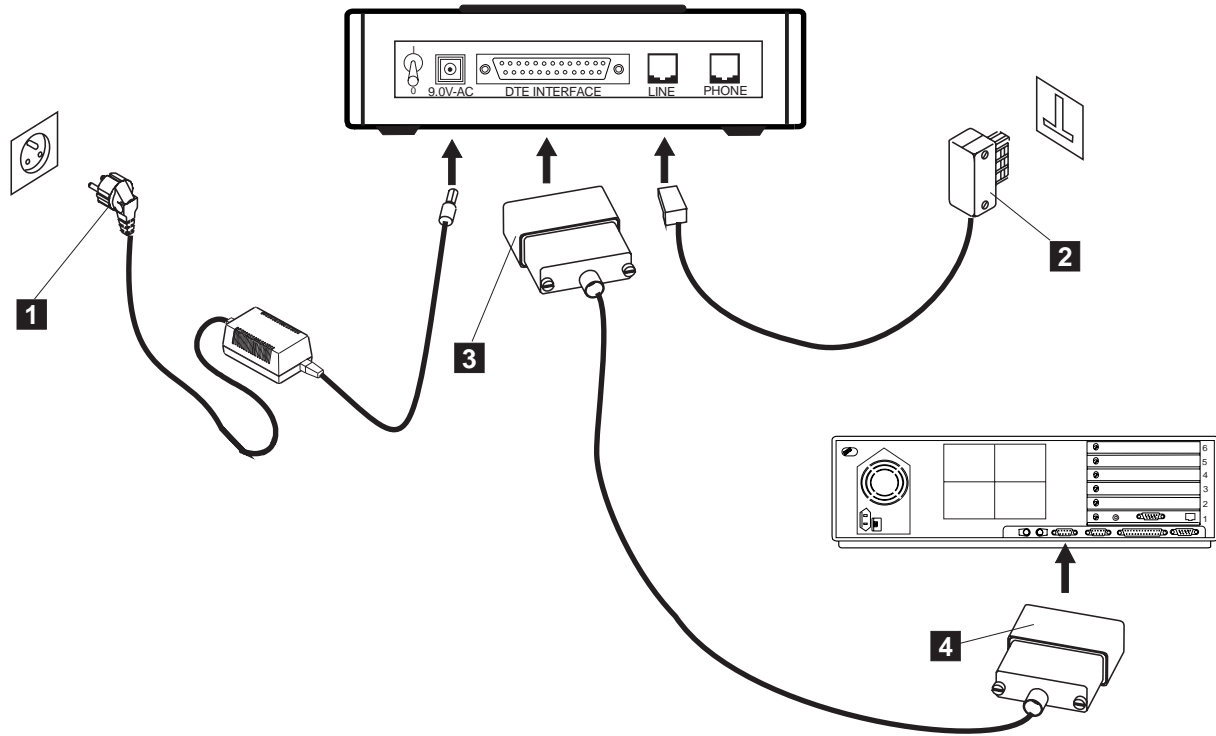

Figure 1-27. Connecting the Hayes
2. Refer to Figure 1-27 on page 1-27 and connect the cables as follows: